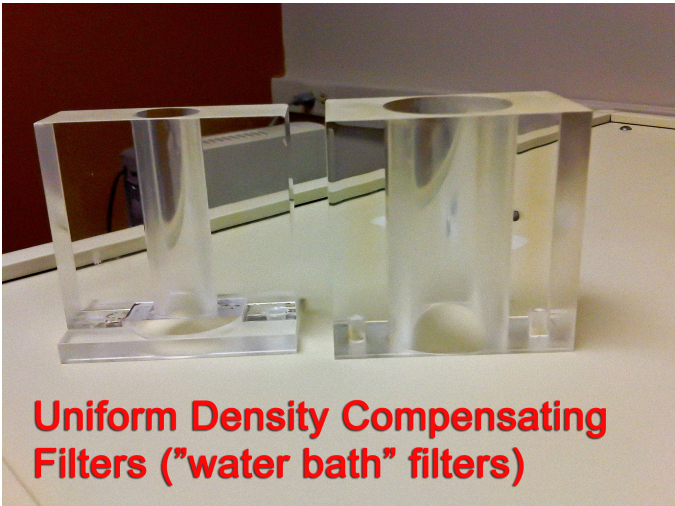

Figure 8: Uniform Density Compensating Filters.
- 7.4.3.4. Place the Uniform Density Compensating filter (clear acrylic “water bath”) on top (see Figure 8 & 9).